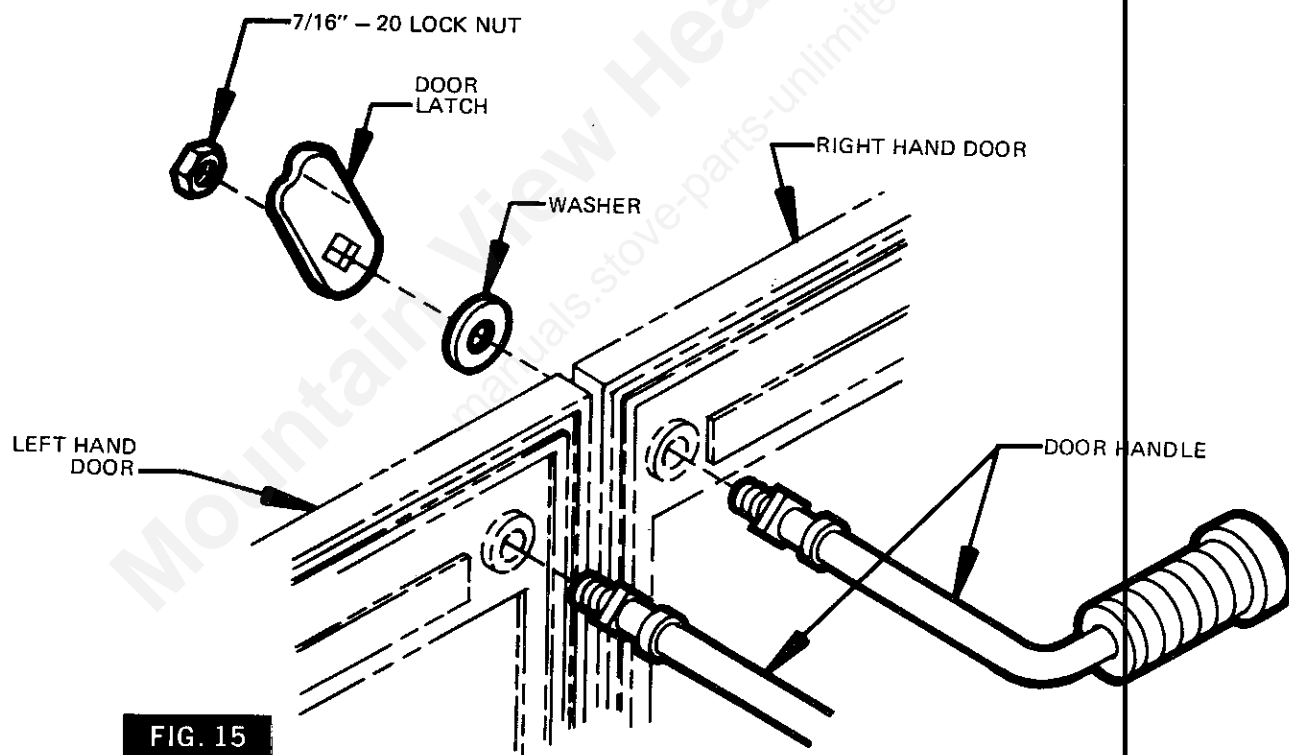

**FIG. 14**
1. Place (5) firebricks side by side with the 4-1/2" side facing the backwall of the firebox. (See Fig. 14).
2. Place the remaining (5) firebricks end to end with the first firebricks.
3. Install the air manifold with the square end tabs towards the front of the insert and seated down between the firebox front and firebrick. (Fig. 14).